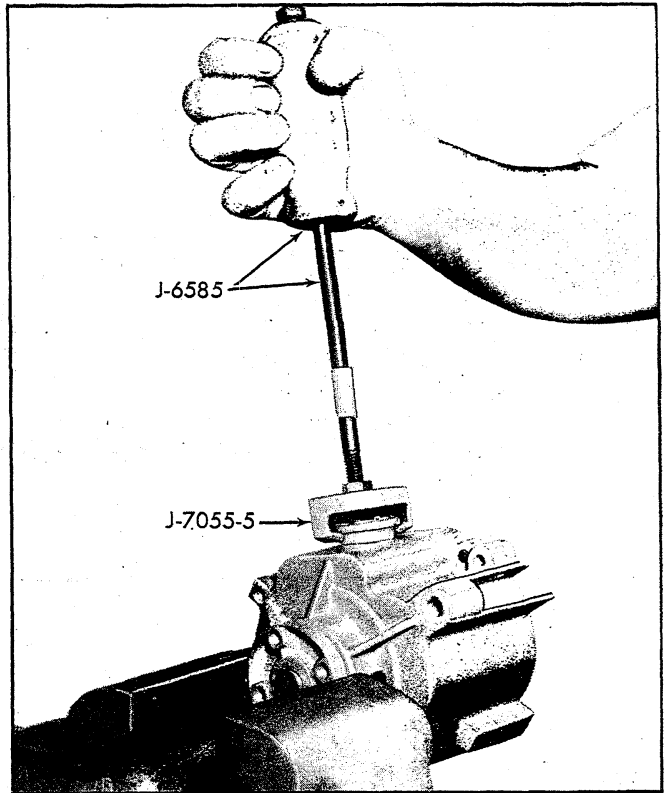

Fig. 6—Removing Pressure Relief Valve.
1. Using J-7055-5 and J-6585 pull relief valve from housing (fig. 6).